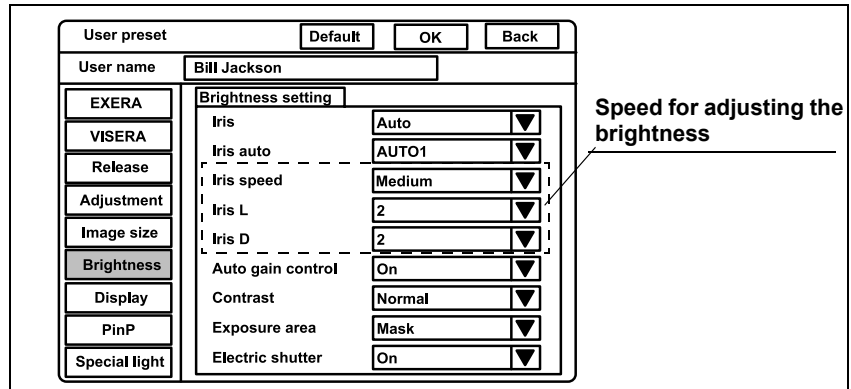

Figure 9.26
1. Click "▼" of "Iris speed" (see Figure 9.26). The iris speeds appear in the pull-down menu.
3. Click “ ▼ ” of “Iris L (Iris D)” (see Figure 9.26). The fine-tuning speeds appear in the pull-down menu.